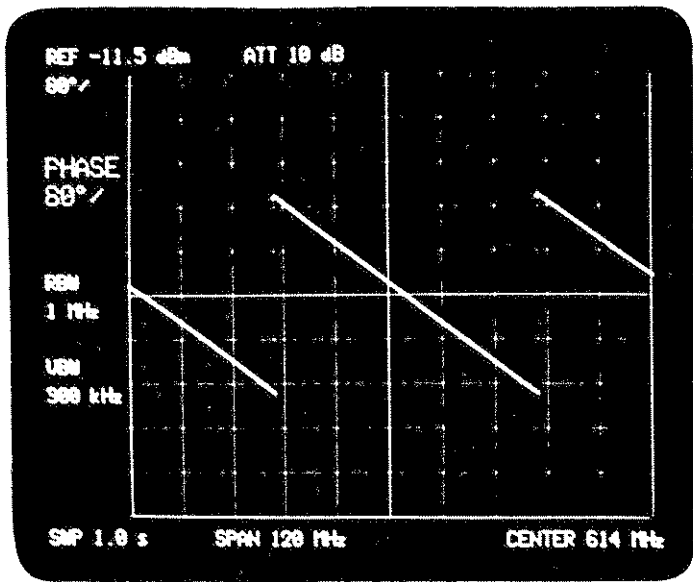

Fig. 6-1 Phase in rotation
- ① Set center frequency, frequency span, resolution bandwidth, sweep time, and other necessary conditions.
- ② Connect the TRACKING GENERATOR OUTPUT to the input of the device under test (amplifier or filter), and connect the output of the device under test to the INPUT of the analyzer. Activate the tracking generator.
- ③ Press the NORMAL key to measure the pass-band response of the device under test. According to the measurement result, select the appropriate T.G. LEVEL and INPUT ATT. level.
- ④ Then press the PHASE key to select the phase measurement mode. The display will present measurement range XX^0 / at its top left corner, and the indicator lamp just above the PHASE key will illuminate. In the Phase Measurement mode press the SWEEP TIME key to manually select the appropriate sweep time (the AUTO mode is programmed for amplitude measurement).
- ⑤ For more precise phase measurement without the affect of phase error of the measuring system, disconnect the device under test from the measuring setup, then connect the input and output cables by using an inline plug adapter to check the phase response of the measuring system itself.
- ⑥ If phase rotation is observed as shown in Figure 6-1, press the kHz G.D. OFFSET key to activate the electrical length.